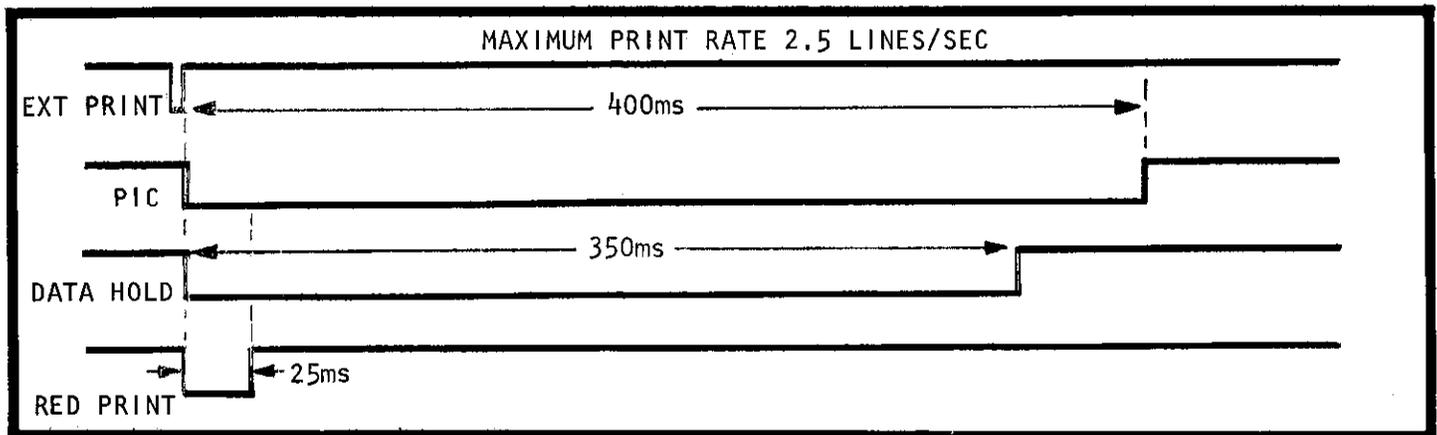

FIGURE 8. Timing For Red Print.
3. \overline{RED} . (Pin 44) This input requires a Logic '0' to cause the Model 750 to print in "red". This feature may be used to indicate an overload condition on the digital measuring instrument. The RED input is level sensitive with a minimum duration of 25 milliseconds at Logic '0' from the start of PRINT cycle. See Figure 8 for timing considerations. Sinking current for Logic '0' is 2.6 milliamperes.